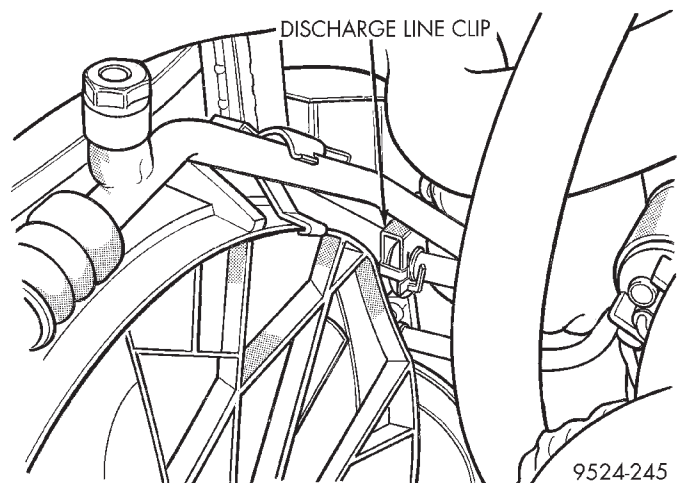
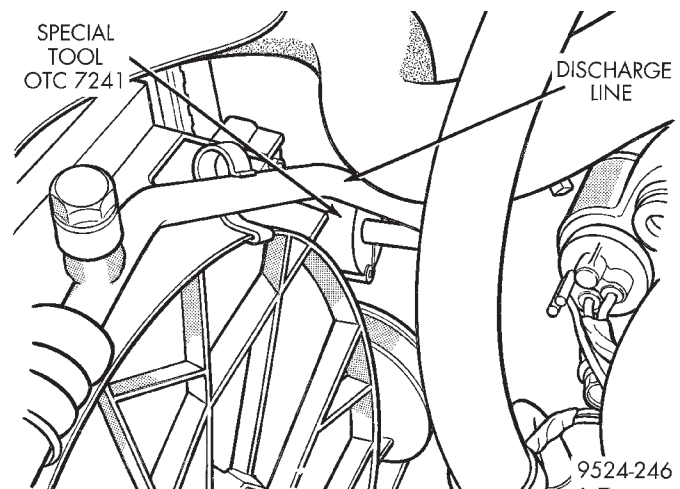

Fig. 32 Quick Connect Clip
Fig. 33 Special Tool For Line At Condenser
(1) Remove refrigerant from the A/C system using a refrigerant recovery machine.
(2) Disconnect A/C pressure transducer wire harness.
(3) Remove quick connect clip and disconnect quick connect at condenser using Special Tool kit 7193 (Fig. 32) and (Fig. 33).